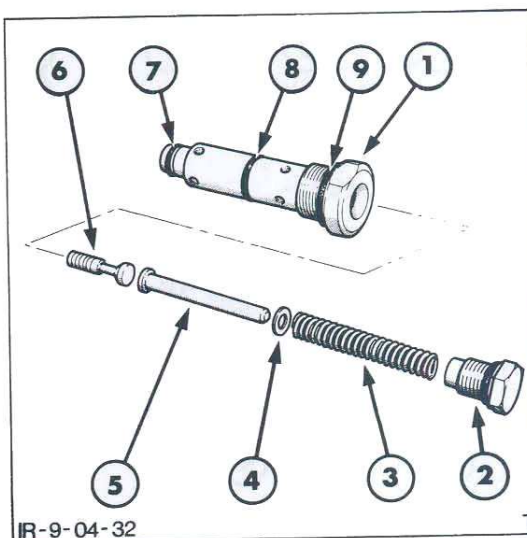

Figure 31
5. Disassemble the backpressure unload valve by removing the end plug, spring shims, poppet rod and poppet, Figure 31.